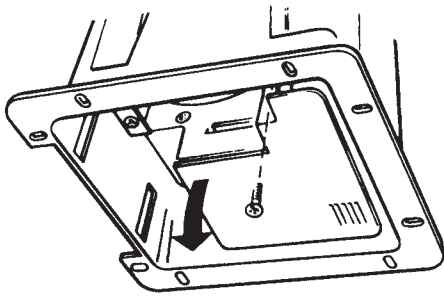

Fig.3
- ◆ Remove the retaining screw on the fan's terminal cover and let the cover swing down. (Fig.3).